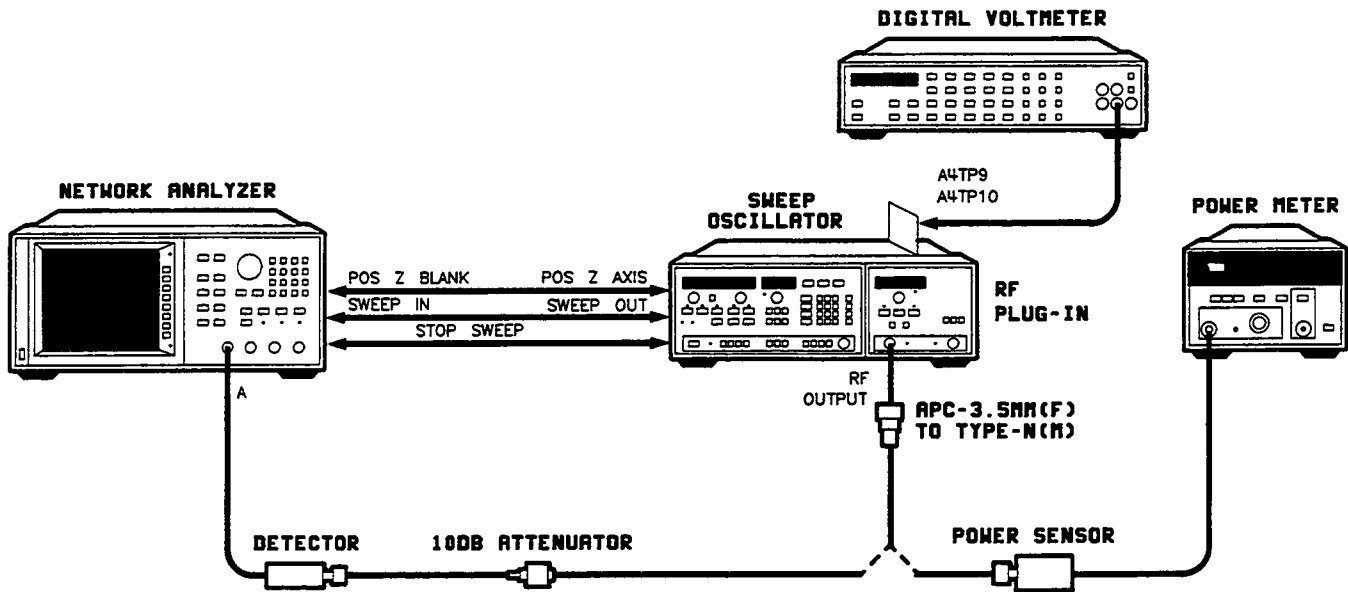

Figure 5-29. ALC Adjustment Test Setup
1. Connect the equipment as shown in Figure 5-29. With AC power off, remove A5 FM driver board. Place A4 assembly on an extender board. Press [INSTR PRESET] [CW]. Sweep the full range of the plug-in at any leveled power. Preset the following adjustments as indicated: